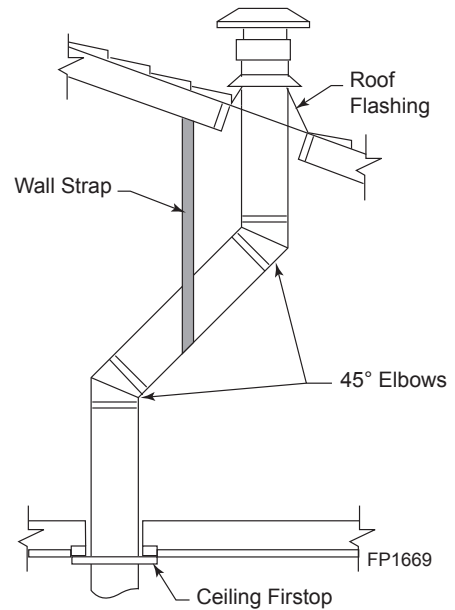

Figure 32 - Offset with Wall Strap and 45° Elbows
1. Determine the route your vertical venting will take. If ceiling joist, roof rafters or other framing will obstruct the venting system, consider an offset. Refer to *Figure 32* to avoid cutting load bearing members.
NOTE: If an offset is needed to avoid obstructions, you must support the vent pipe every three (3) feet. Use wall straps for this purpose. *Figure 32.* Whenever possible, use 45° elbows instead of 90° elbows. The 45° elbow offers less restriction to the flow of the flue gases and intake air.